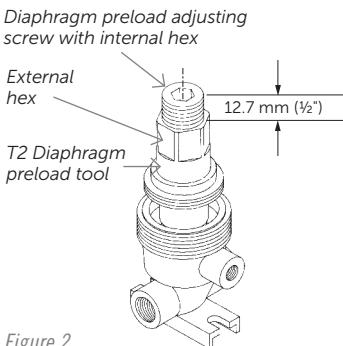

Figure 2
- Use the $\frac{3}{8}$ " allen wrench (S6) to turn the adjusting screw on the diaphragm preload tool (T2) out $12.7\text{ mm} (\frac{1}{2}')$ (see Figure 2). Now, place the diaphragm preload tool (T2) onto the retainer nut (P12) (see Figure 2).